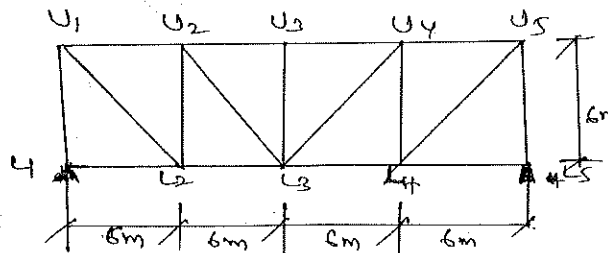

Fig.Q10(b)
- b. Determine the influence line diagram for the forces in the members U_1U_2 U_2U_3 L_2L_3 U_2L_2 and U_2L_3 for the part truss as shown in Fig.Q10(b).